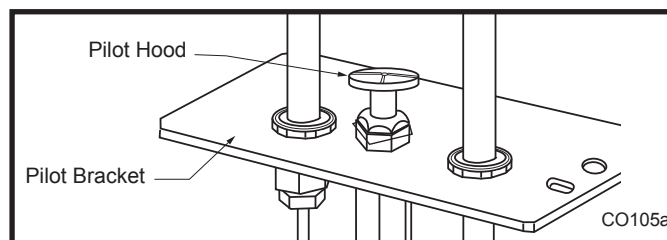

Fig. 80 Remove pilot hood.
1. Remove pilot hood by lifting up. (Fig. 80)